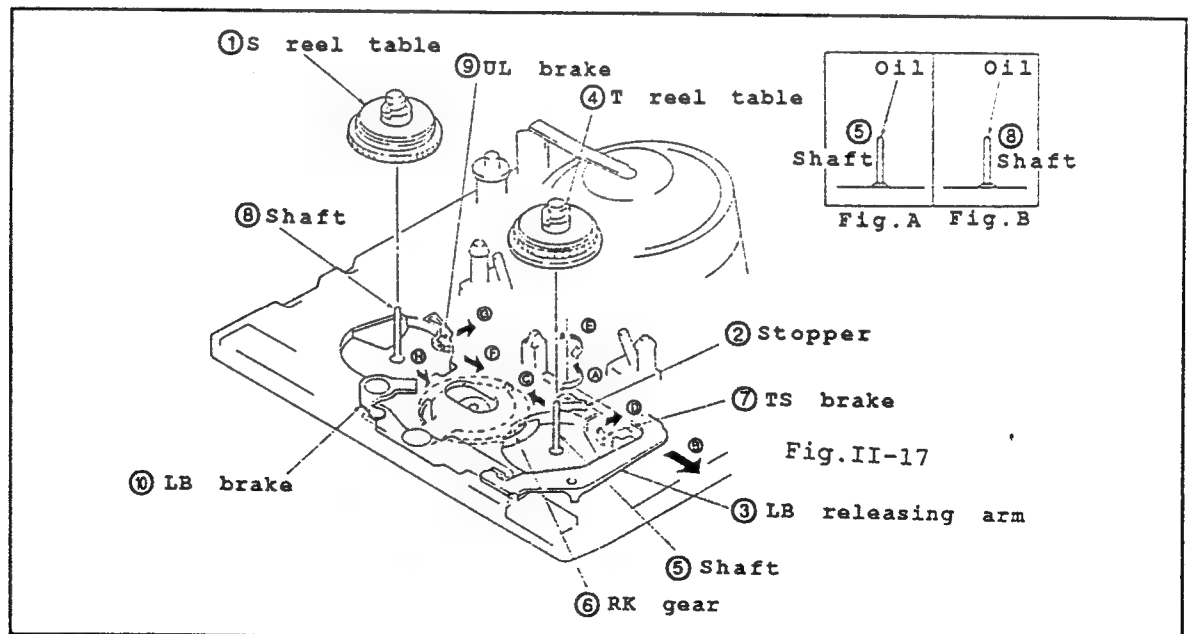

Fig.II-17
• Disassembling (Fig.II-17)
- (1) In the same procedures in "3-4", dismount the S and T brake.
- (2) In the same procedures in "3-5", detach the TL plate.
- (3) In the same procedures in "3-11", take off the tension regulator band.
- (4) Dismount the S reel table ①.
- (5) Turn the stopper ② in the direction of ① by 90° approximately.
- (6) While shifting the LB releasing arm ③ in the direction of ②, dismount the T reel table.
• Reassembling (Fig.II-17)
- (1) Apply the 1/2 drop of oil to the shaft ⑤. (Fig.A)
- (2) Rotate RK gear ⑥ to the direction of ③.